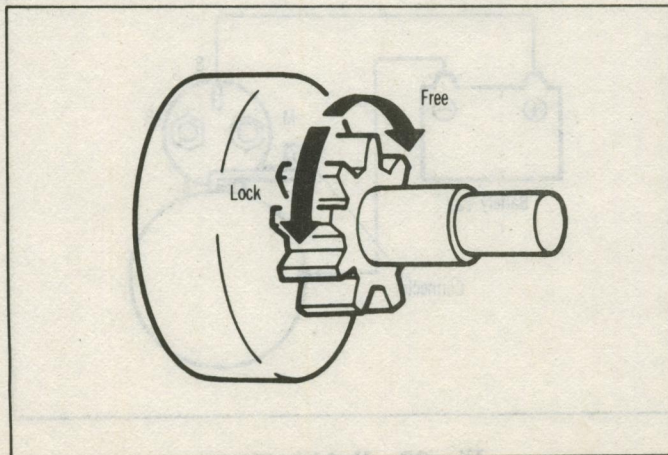

Fig. 17 Inspecting Overrunning Clutch
(1) Inspect the pinion and spline teeth for wear or damage. Replace if damaged. If damaged, also inspect flywheel ring gear for wear or damage.
(2) Rotate pinion. It should turn free in clockwise direction and lock when turned counterclockwise. (Fig. 17)